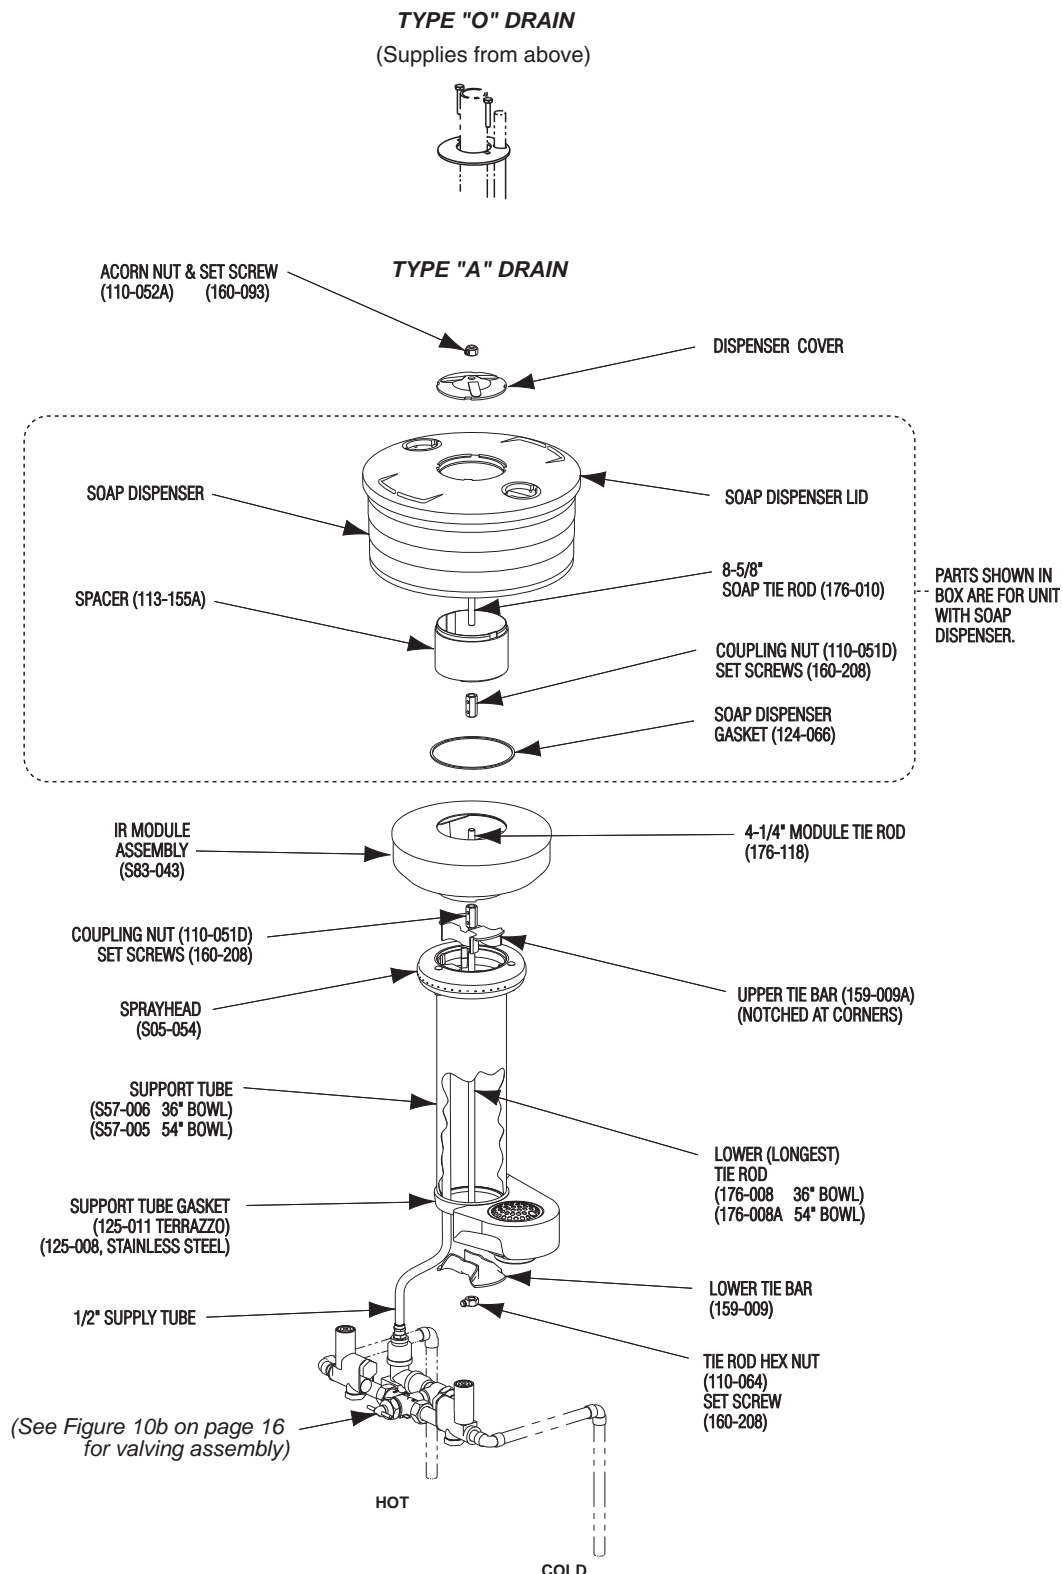

Figure 8
1. Install hemmed end (not sharp end) of support tube with gasket onto bowl as shown in Figure 8 on page 12.
3. Place sprayhead with 1/2" tubing onto support tube as shown in Figure 8 on page 12. Run tubing down through support tube.
4. Assemble the lower tie rod (the longer threaded rod), upper tie bar (notched at corners), lower tie bar, tie rod nut, and coupling nut, then attach the 4-1/4" tie rod to coupling nut as shown in Figure 8.
- 6a. **FOR UNITS WITH SOAP OPTION:** Install the soap dispenser gasket, spacer, soap dispenser, and dispensercover using the coupling nut, third tie rod (8-5/8" long) and second coupling nut as shown (see Figure 8). Secure with acorn nut and socket head set screw.
NOTE: Refer to Figure 8 on page 12 for installation of unit with Type A or O drain. Refer to Figure 9 on page 14 for installation of unit with Type B or H drain.